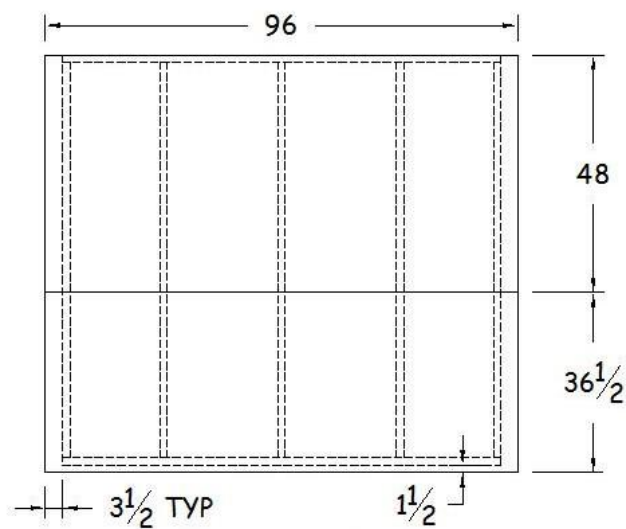

Figure 22-7. Back Wall Sheathing.
- c. Cut an additional piece of 1/2" OSB, approximately 36 1/2" x 96", to fit below the upper section of OSB. This piece should fit tight to the upper OSB piece, overhang each side by 3 1/2", and overhang the bottom plate by 1 1/2". A scrap piece of 2x4 can be used as a gauge for the 3 1/2" and 1 1/2" overlap. Nail into all studs and the bottom plate with 2 3/8" collated nails every 8-12". See Figure 22-7.